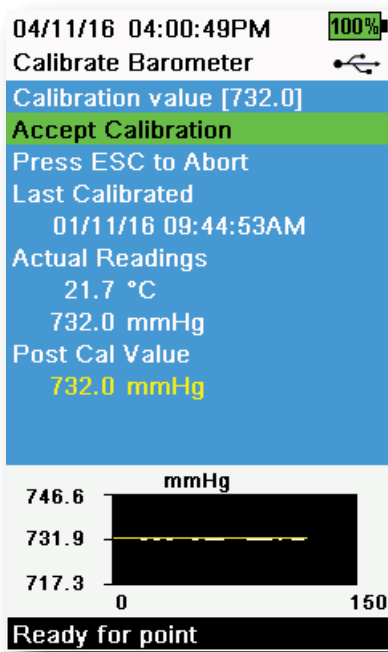

Figure 50 Calibrate Barometer
3. Select **Accept Calibration** (Figure 50). “Calibration successful!” will be displayed in the message area.